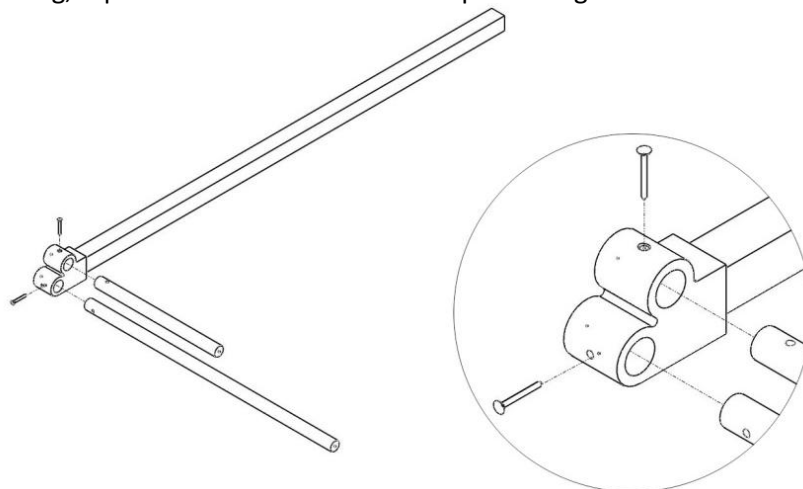

Figure 4
4. Insert the Fingers (cvEE) into the Extension Arms (cvDD) and screw the Set Screws (cvK) through the mounting hole. Take note of the positioning of the Fingers (cvEE). The short Finger (cvEE) should be inserted into the upper opening, repeat this for each side of the spa. See Fig 4.